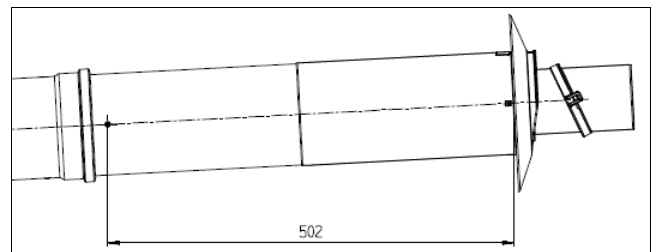

Fig. 3: 80/125mm Flue 7-719-003-702
**80/125:** The standard telescopic flue & terminal 7-719-003-702 can be used to pass through external walls up to 502mm thick (see Fig. 3).